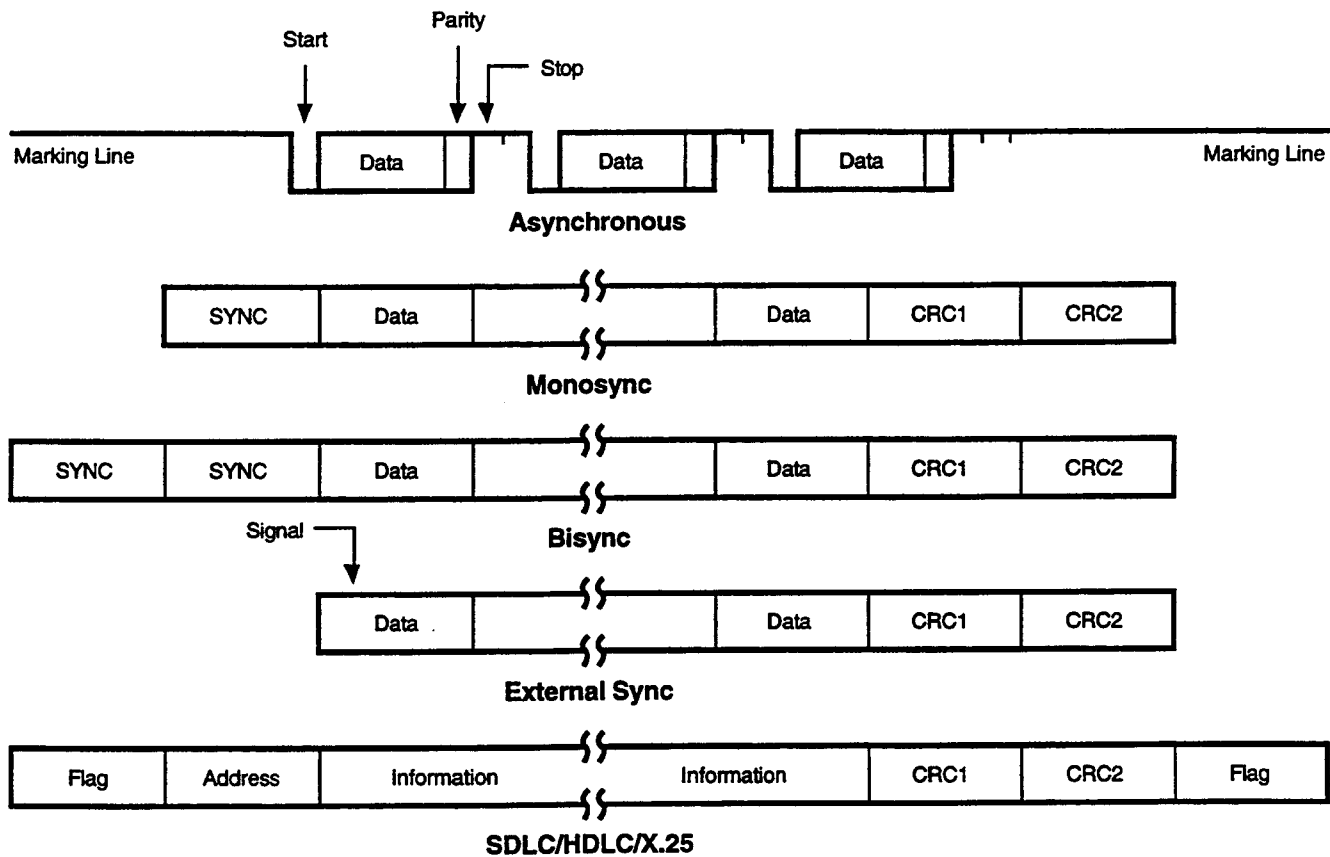

Figure 11. Some SCC Protocols
**/RTSA, /RTSB** *Request To Send* (outputs, active Low). When the Request To Send (RTS) bit in Write Register 5 (Figure 11) is set, the /RTS signal goes Low. When the RTS bit is reset in the Asynchronous mode and Auto Enable is on, the signal goes High after the transmitter is empty. In Synchronous mode it strictly follows the state of the RTS bit. Both pins can be used as general-purpose outputs.
The SCC provides two independent full-duplex programmable channels for use in any common asynchronous or synchronous data communication protocols (Figure 11). Each of the datacommunication channels has identical features and capabilities.